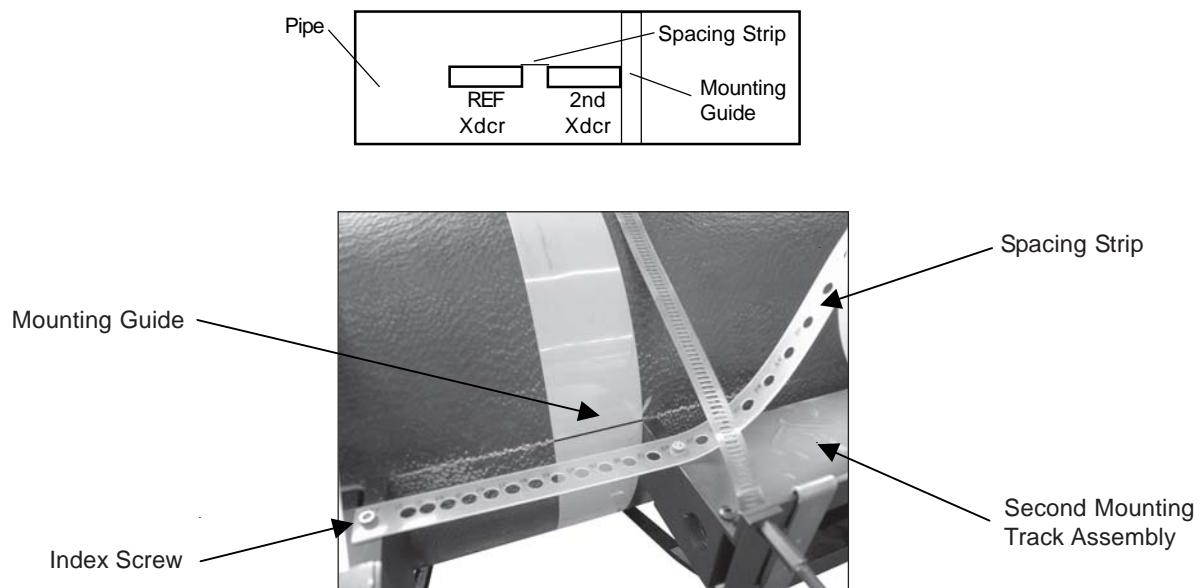

Figure 10
- Acquire the “Number Index” from the flowmeter For Direct Mode mounting. Install the Spacing Strip on the Reference Mounting Track index screw (Figure 10). Use the Spacing Strip and Number Index value to space the transducers at the correct distance from each other. Remove Spacing Strip.
- Wrap Mounting Guide around the pipe (Figure 10) and position it against the outside edge of the second Mounting Track Assembly. Position Mounting Guide so its mark is aligned with the **top edge** of the second Mounting Track Assembly. Tape it in this position on the pipe.